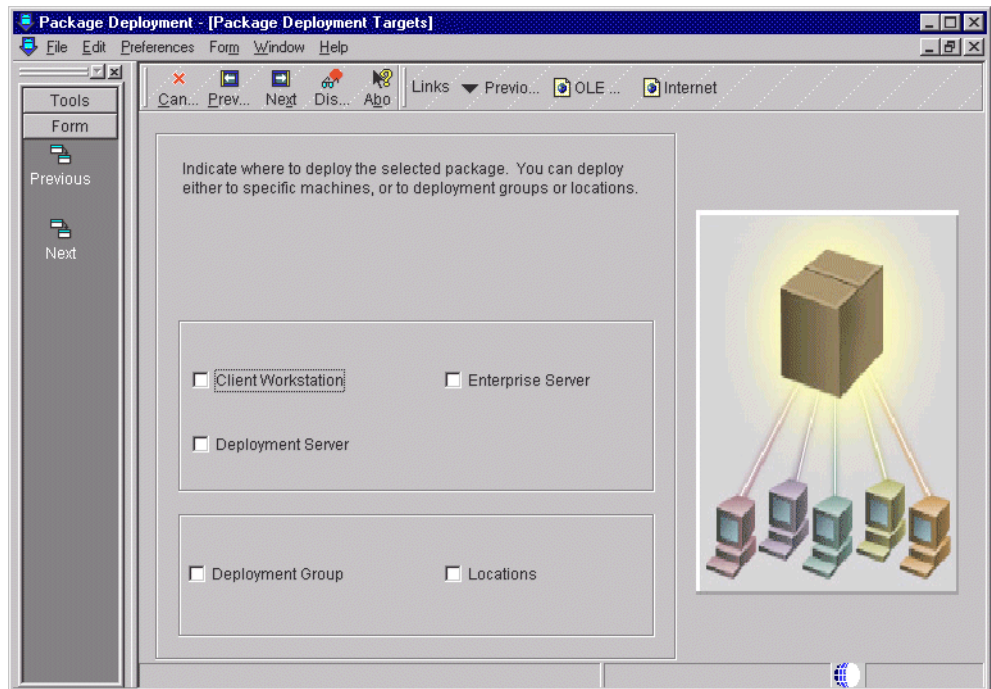

Figure 164. Package Deployment Targets
4. Choose the package you want to deploy. Click **Next**. The Package Deployment Targets form appears (Figure 164).